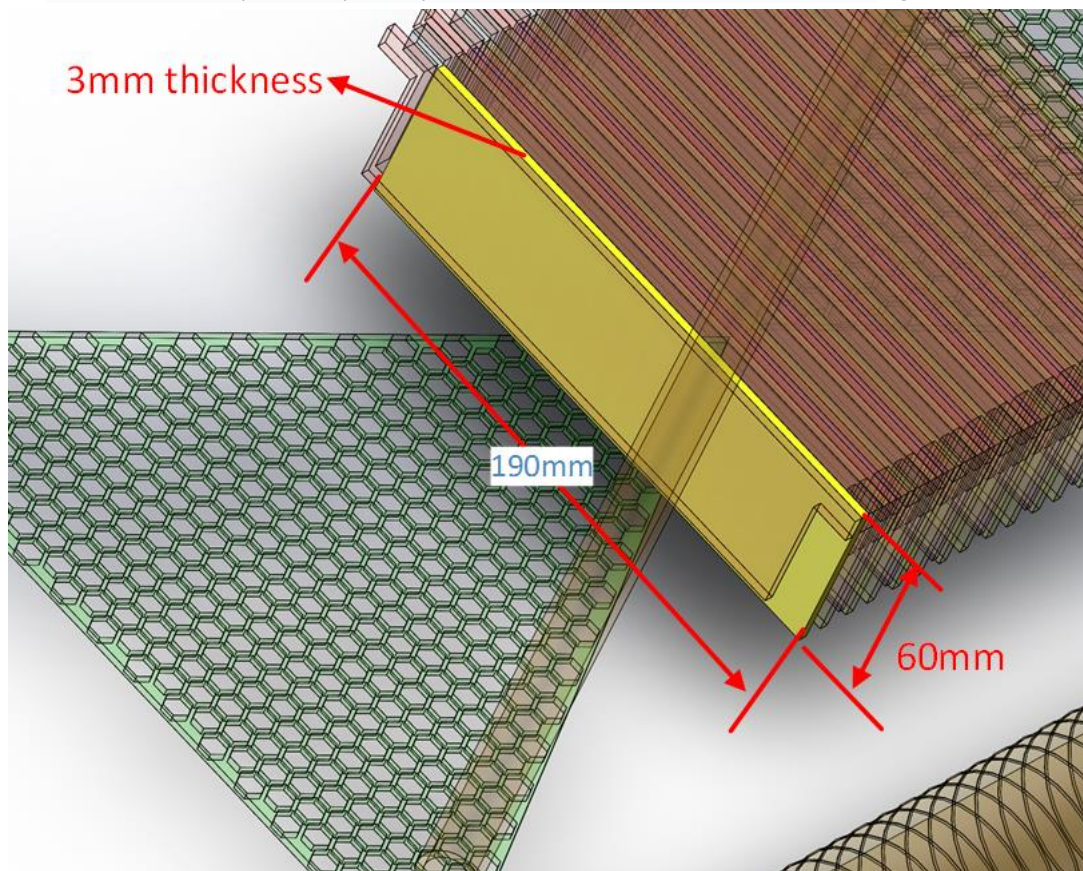

Figure 6 Nature honeycombs
(3) The natural honeycombs (yellow plate), 6cm x 19cm, 3mm thickness, see Figure 6